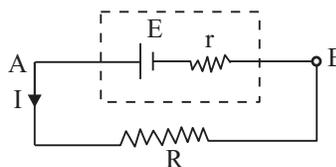

Fig. 23.2
- (iii) When a resistance  $R$  is put across a cell of  $emf$   $\mathcal{E}$  and internal resistance  $r$  (Fig. 23.2), the current drawn from the cell will be